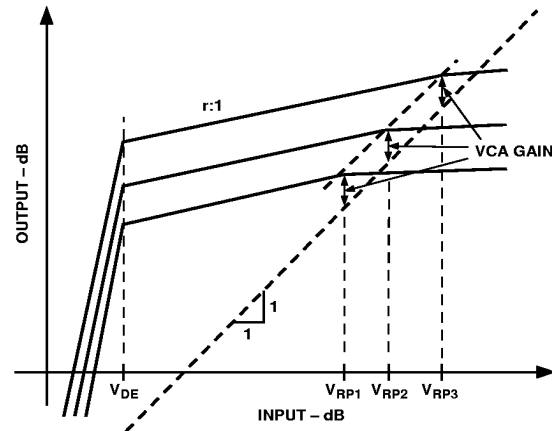

Figure 17. Effect of Varying the Rotation Point
**Rotation Point.** An internal dc reference voltage in the control circuitry, used to set the rotation point, is user-specified, as illustrated in Figure 9. The effect on rotation point is shown in Figure 17. By varying a resistor,  $R_{ROTPT}$ , connected between the positive supply and the ROTATION POINT SET pin (Pin 11),